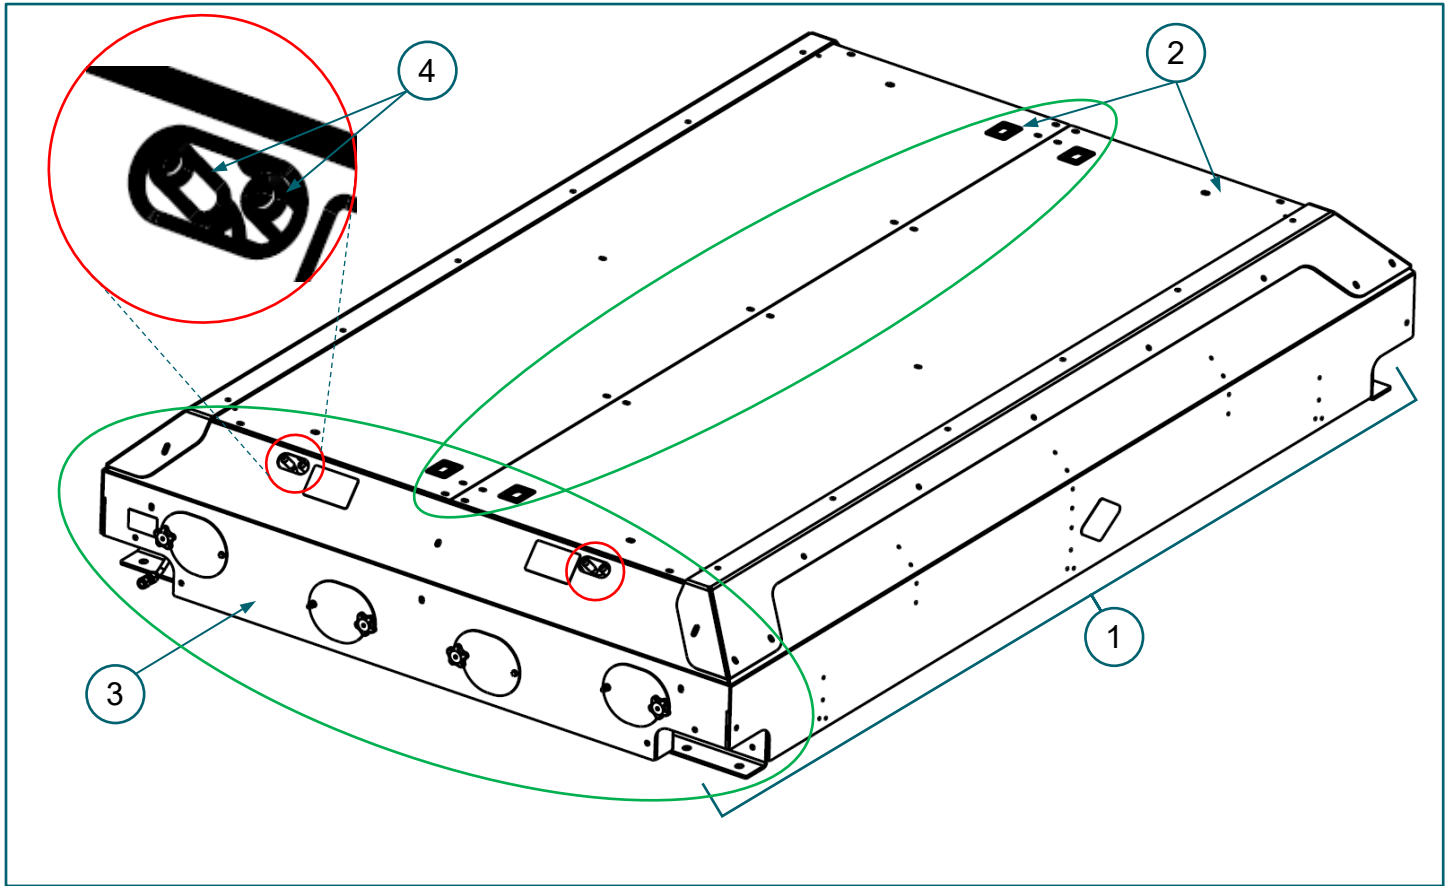

FIGURE 10. RM fuel system cover components
1. Use a battery-powered impact wrench and 7/32-in hex bit to reinstall valve end panel using stainless steel fasteners. **FIGURE 10**
Verify: 1) PRD vent tube caps do not touch valve end cover vent openings, and 2) vent cap tips are flush with the underside of the cover OR do not protrude more than 0.5-in (12.7 mm) above the cover. FIGURE 10
2. Close doors and use a battery-powered impact wrench and a 7/32-in hex bit to reinstall stainless steel fasteners. **FIGURE 10**